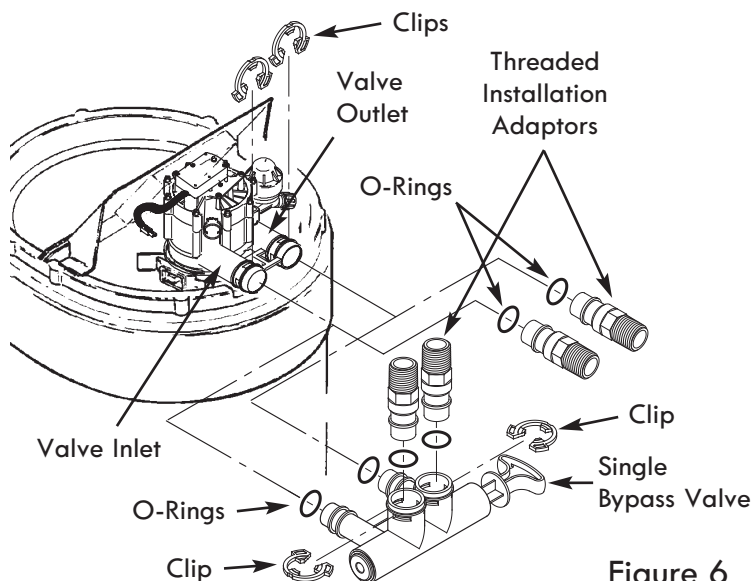
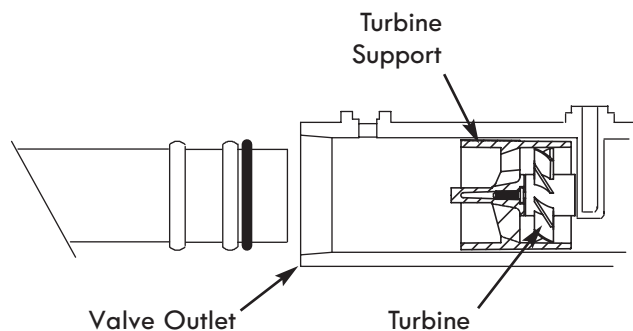

Figure 6
Figure 7
5. Visually check and remove any foreign materials from the valve inlet and outlet ports (see Fig. 6). Carefully remove the two large plastic clips (you will use them). Check to be sure the turbine and support are firmly in place (see Fig. 7).